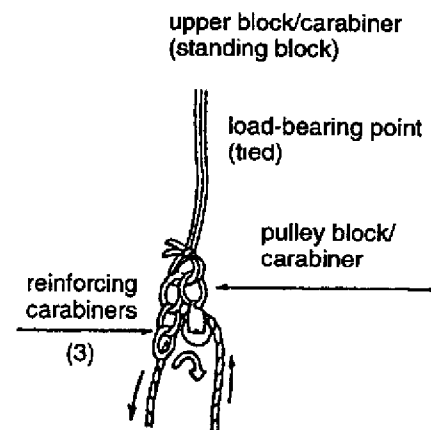

Fig. 7-21
- Tie a sling rope to a mooring object above for the load-bearing point; attach a pulley block and carabiners (including those for reinforcement); and pass the rope that the firefighter is holding through the block and carabiners to serve as a standing block. (Fig. 7-21)